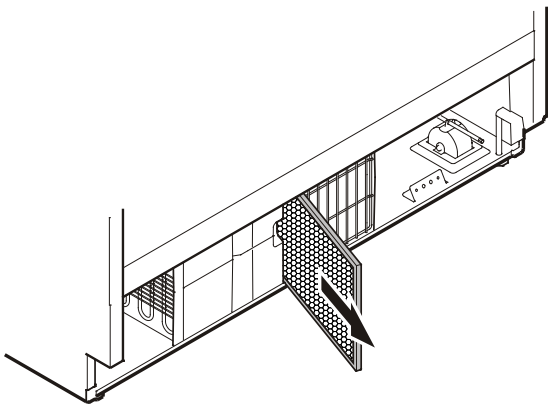

Figure 24
- Remove the dust filter (**Figure 24**) and clean in a dishwasher or by hand with lukewarm water and dishwasher detergent.